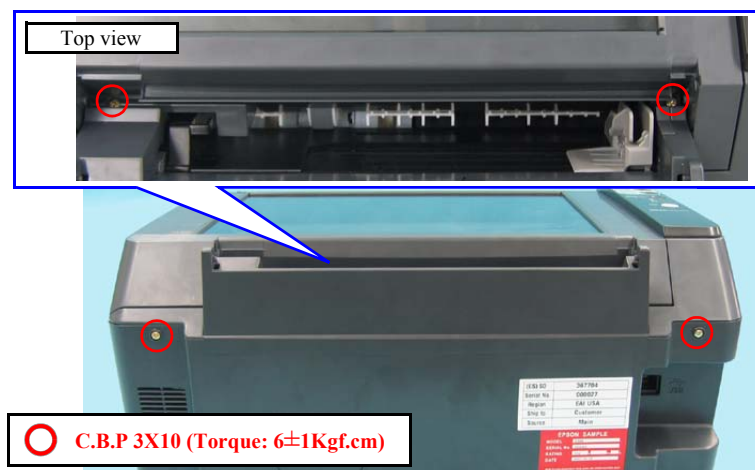

Figure 4-10. Removing Screws securing Middle Case (rear side)
6. Screw the Panel Unit/Scanner Unit/Middle Case to the Lower Case. (refer to Figure 4-9, Figure 4-10)